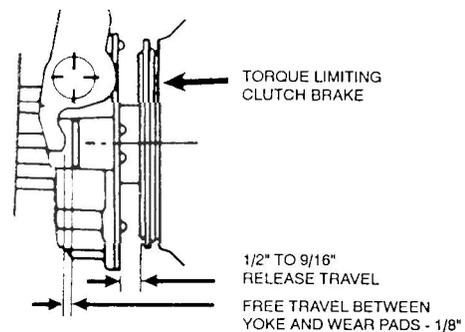

FIGURE 1
2. Measure clearance between release bearing housing and clutch brake. See Fig. 1. If clearance is less than 1/2" or greater than 9/16", adjust clutch as outlined in following steps: